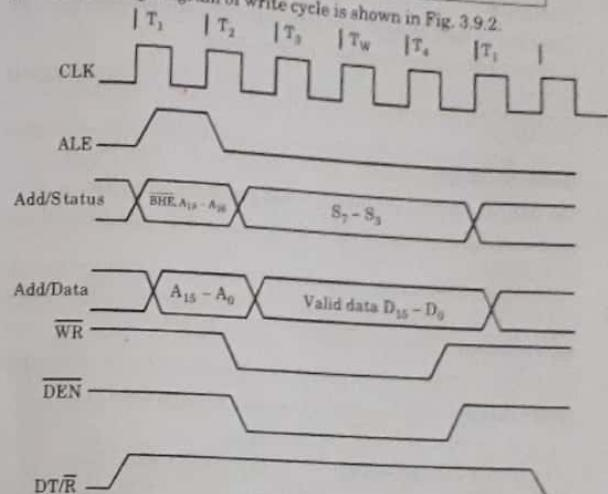

Fig. 3.9.2. Write cycle.
8. The timing diagram of write cycle is shown in Fig. 3.9.2.